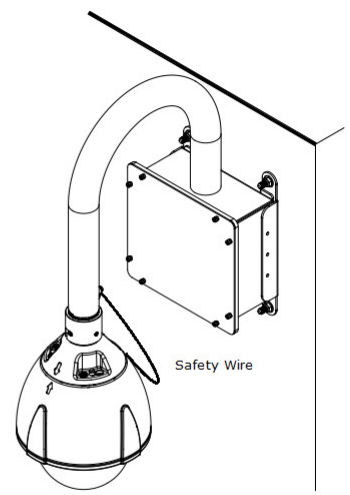

Figure 4
- I) Installation completed.(Figure 4)
- G) Secure the safety wire to position C in Figure 1 with supplied screw. And return the lid to original position and secure the screws of the lid with a supplied torx wrench. (Figure 4)